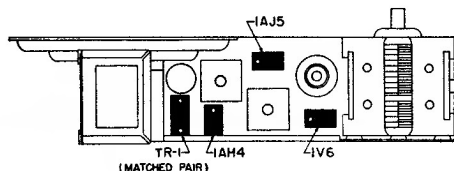

FIG. 2
6. When replacing tubes be sure red dot on tube base is positioned to match dot of tube location chart, Fig. 2.